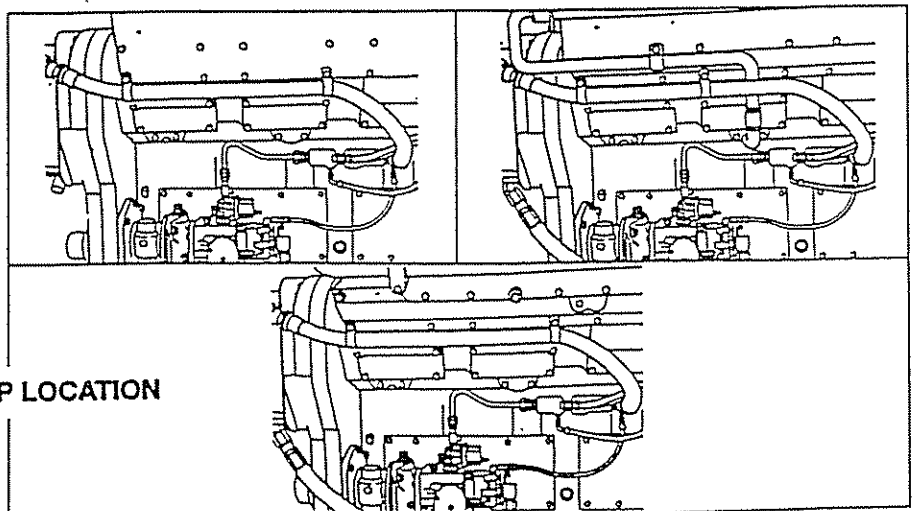

FIGURE 9. RETURN HOSE CLAMP LOCATION
21. Position hose clamp (16) P/N 67949 around fuel hose (14) and hose clamp (17) P/N 218052 around fuel hose (8).
22. Secure hose clamp (16) and hose clamp (17) to hose bracket (15) using capscrew (18) P/N S-112.
24. Using vegetable oil, lubricate the O-ring on the tee fitting (19) P/N 3631103 and install the fitting into the side port of the fuel reservoir. Orient the fitting toward the rear of the generator set. Do not torque the fitting locknut at this time.
26. Install the flare fitting end of the fuel hose (20) P/N 3631105 onto the engine fuel return port straight fitting and the ORFS fitting end onto the tee fitting (19). Torque the flare end fitting to 45 ft-lbs and the ORFS end fitting to 100 ft-lbs. The hose can be deformed if twisted during assembly and could affect engine return fuel flow. Loosen one of the connections if necessary and rotate the hose to remove any kinks.
27. Remove and retain two capscrews from the aftercooler housing and install two hose clamps (21) P/N 218052 around fuel hose (20) (Figure 9). Torque the capscrews to 35 ft-lbs.